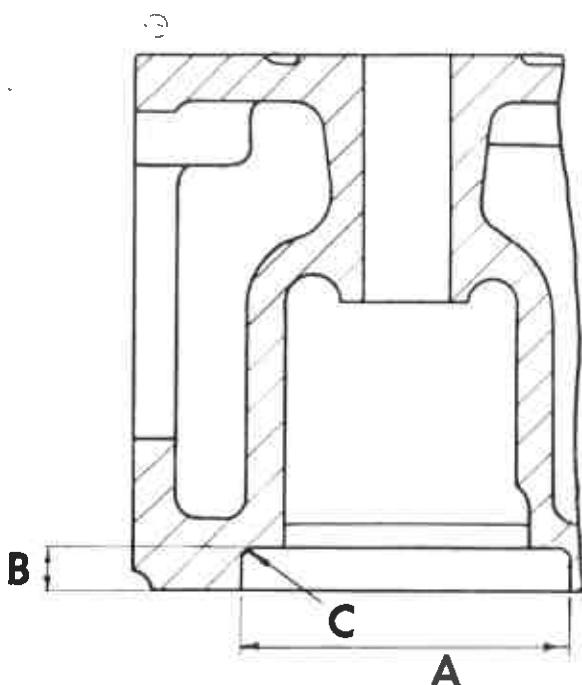

Fig. J.7. Valve Seat Cutting Dimensions.
3. Using the valve guide bore as a pilot, machine the recess in the cylinder head face to the dimensions quoted in Fig. J.7.